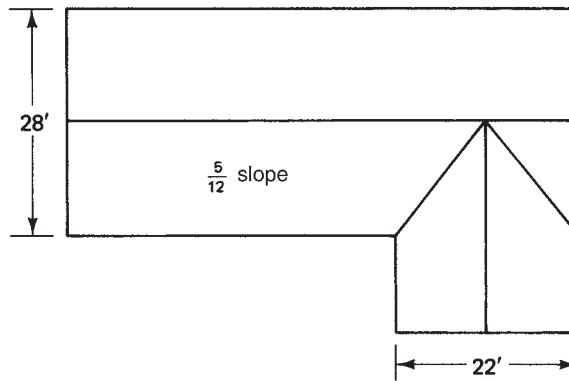

Figure 21–2
- B. Determine the decrease in length of the valley jacks on the main roof described in Figure 21–2. Assume that the rafters are spaced 16 in. o.c.